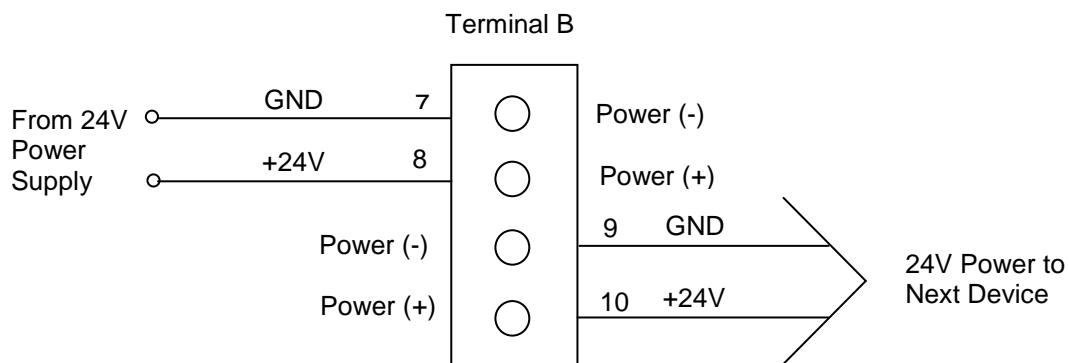

Figure 10 Wire Connection Details for Power
- b) Connect the power wires to the Power terminals as shown in Figure 10.